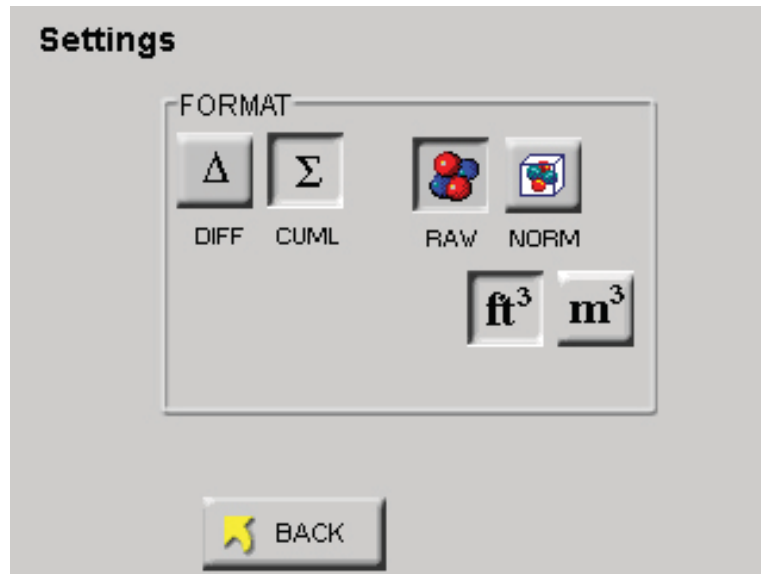

Figure 6-91 Reports Settings Screen
- Select the SETTING button to format the instrument for CUML/ DIFF, RAW/NORM, ft³/m³ as shown in Figure 6-91.